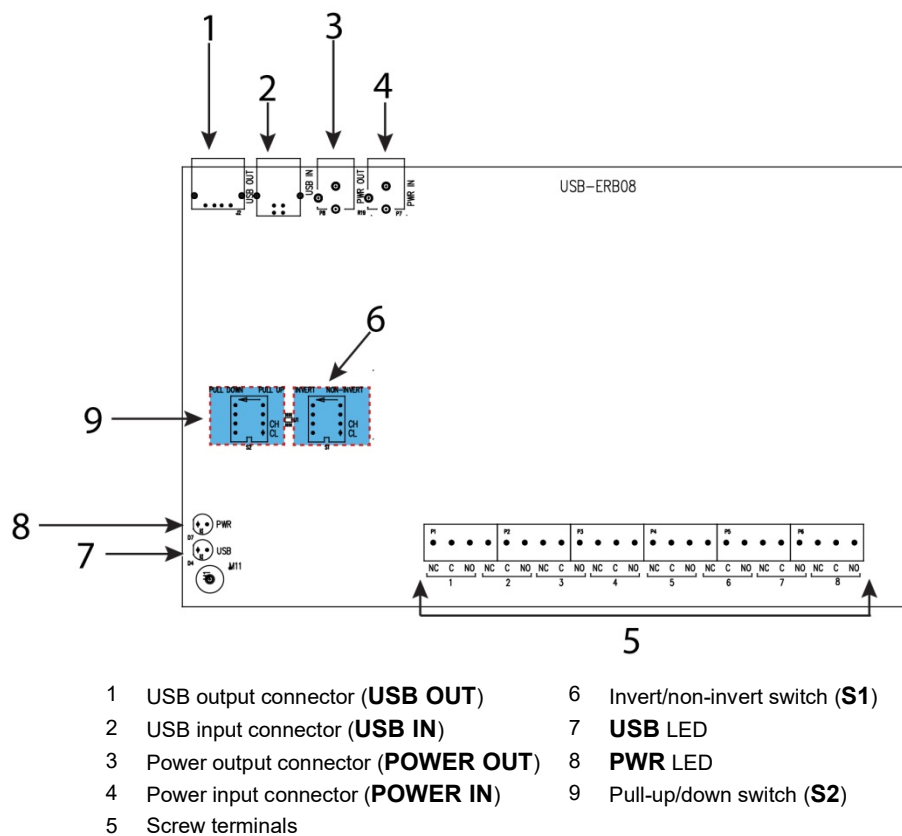

Figure 5. USB-ERB08 components
The USB-ERB08 has banks of onboard switches that configure the relay logic polarity and relay power-up state. Configure these switches before you connect the external power supply to the USB-ERB08. Factory-configured default settings are listed in the table below. Refer to Figure 5 on page 9 for the location of each switch.
1. Connect the external power cord to the power connector labeled **POWER IN** on the USB-ERB08 enclosure (**PWR IN** on the board). Refer to Figure 5 for the location of this connector.
The **USB LED** turns on. Refer to Figure 5 on page 9 for the location of the **USB LED**.
The USB-ERB08 has the following internal components, as shown in Figure 5.